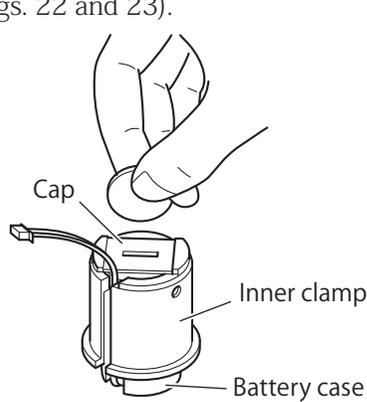

Fig. 22 Removing the Battery Cap
- 4 Turning the cap on the battery case using a coin, remove the battery. (Figs. 22 and 23).